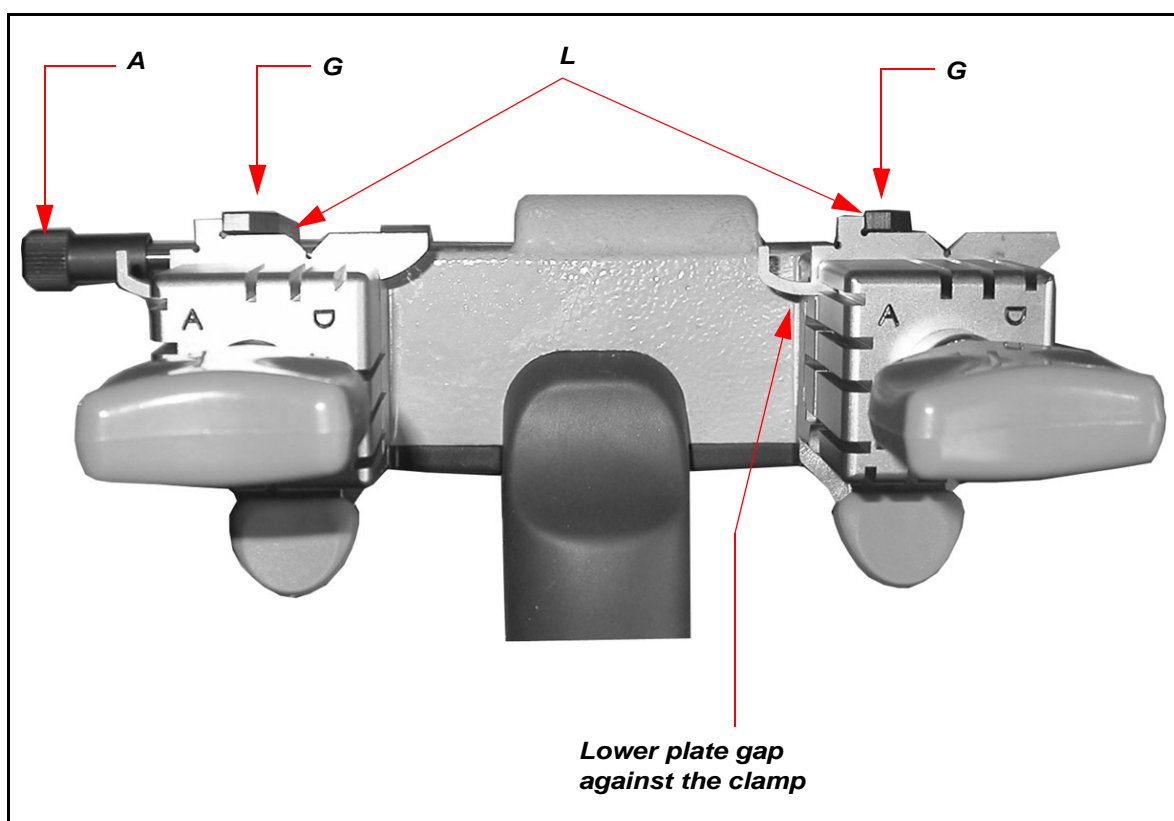
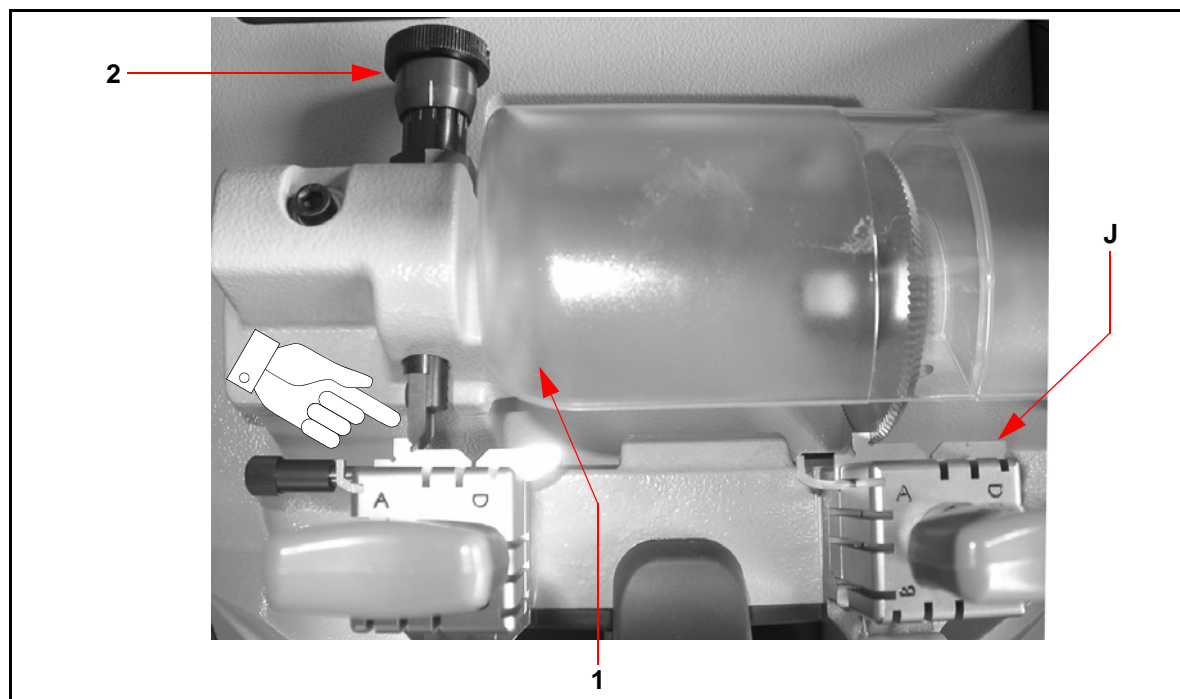

Figure 6: Adjusting the gauge wings
Figure 7: Control and adjustment of the cutting depth
1. Arrange the all purpose plate in the jaws adjusting it in the **A** position (see figure 6), so that the lower back stop is against the left side of the jaws (see figure 6);
2. Rotate the gauging rod (16) until the wings of gauge (L) fit into the upper stops (gaps) of the all purpose plate (see figure 6);
3. Loosen nut (G) that holds the wings and let them slide along the rod until the conditions described under point "2" are met (see figure 6).
1. Place the all purpose plates (J) between the jaws previously set in the A position (see figure 7);
1. Arrange the all purpose plates in the jaws adjusting them in the **A** position (see figure 7), so that the plate's lower backstop is against the left side of the jaws (see figure 6);